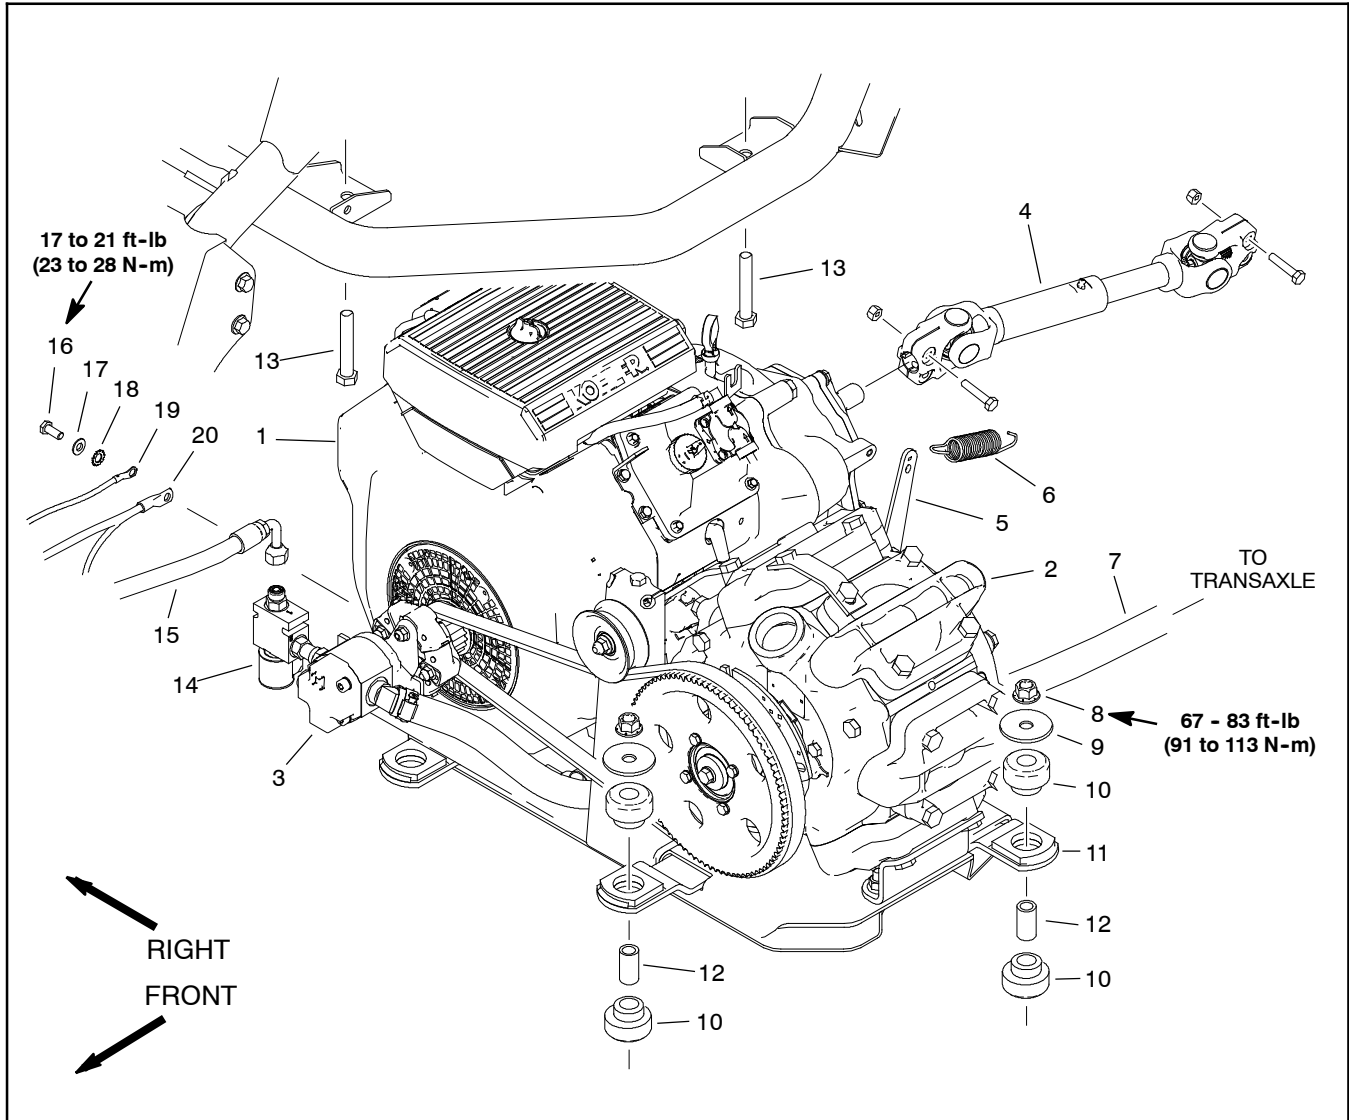

Figure 11
Removal (Fig. 11)
- D. Disconnect battery negative (–) cable and machine wire harness ground at engine base (Fig. 11).
Installation (Fig. 11)
- D. Connect battery negative (-) cable and machine wire harness ground to engine base (Fig. 11).